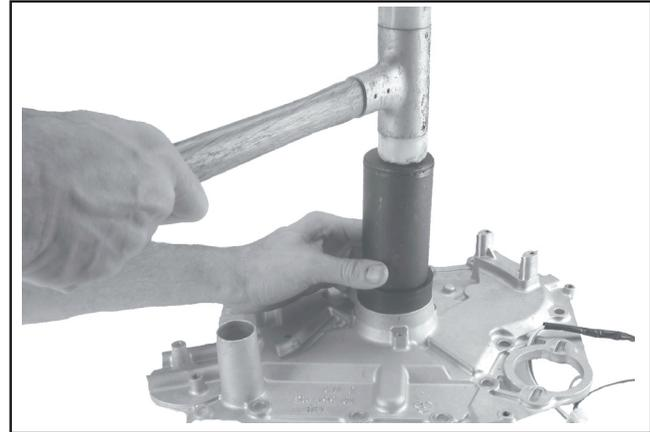

Figure 10-28. Installing Flywheel Side Oil Seal.
1. Lubricate the outside diameter and lip of the flywheel end oil seal. Support the closure plate and install the oil seal. Using a seal driver, drive the seal to a depth of **5 mm (0.196 in.)** in the seal bore. See Figure 10-28.